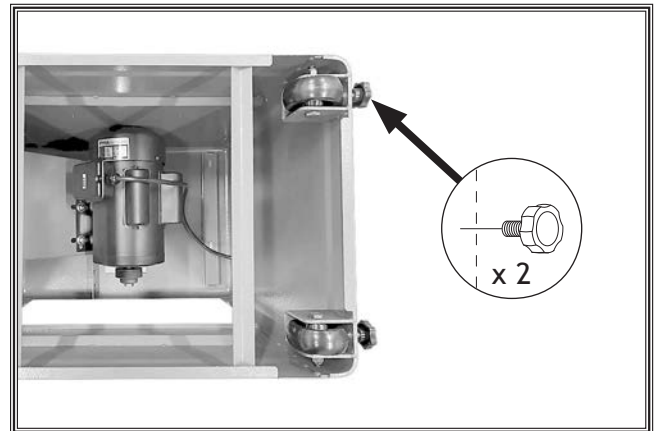

Figure 4. Mobile base lock knobs installed on stand.
6. Install (2) mobile base lock knobs on stand and fully tighten to prevent wheels from moving (see **Figure 4**).